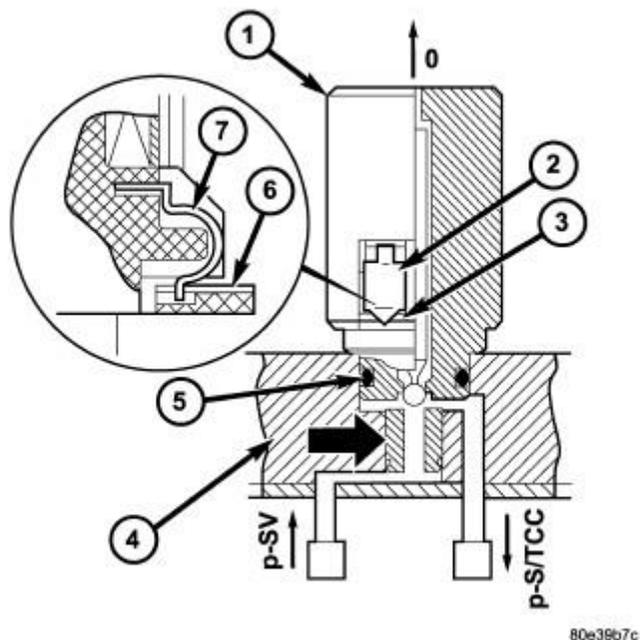

Fig. 206: Cutaway View Of Torque Converter Lockup Clutch PWM Solenoid Valve
The torque converter lockup PWM solenoid (1) valve converts pulse-wave-modulated current controlled by the TCM into the appropriate hydraulic control pressure (p-S/TCC). Refer to **Fig. 206**.